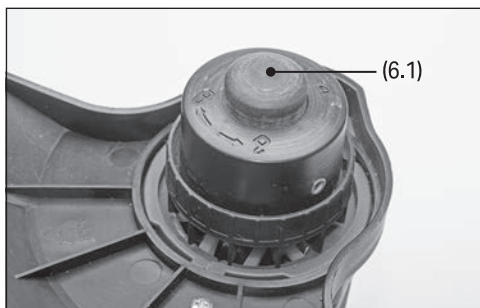
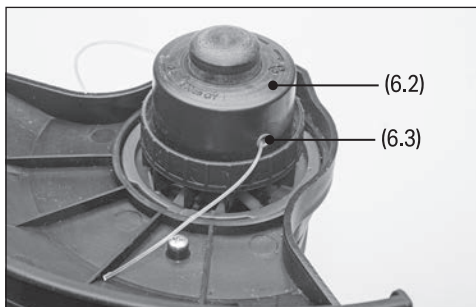

Fig. 9
Fig. 10
7.2 Tap 'N' Go Cutting Spool Assembly (Fig.9 – Fig.10)
- When the cutting performance deteriorates, tap the spool button (6.1) on the grass. The cutting line will automatically extend, and any excess will be cut to length by the trimming blade (5).